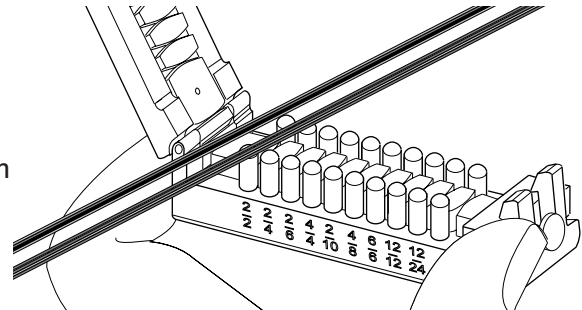

Figure 14
- Step 4:** Press the latch release to open the lid (Figure 14). Clean the tool with the brush provided with the tool as described in Section 10, “Maintenance”